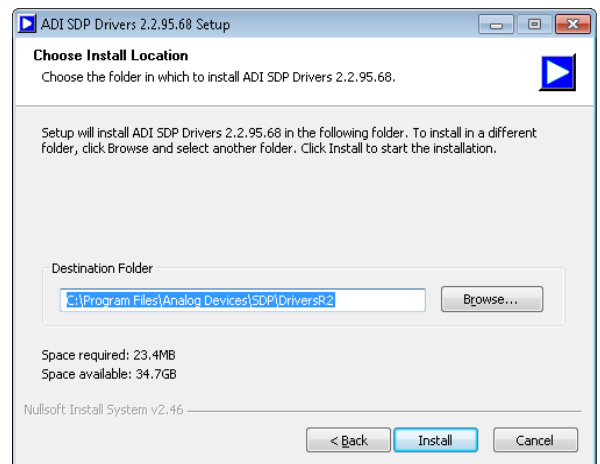

Figure 12. **Choose Install Location** Window
2. Choose the installation location and click **Install**; the default folder is shown in Figure 12.